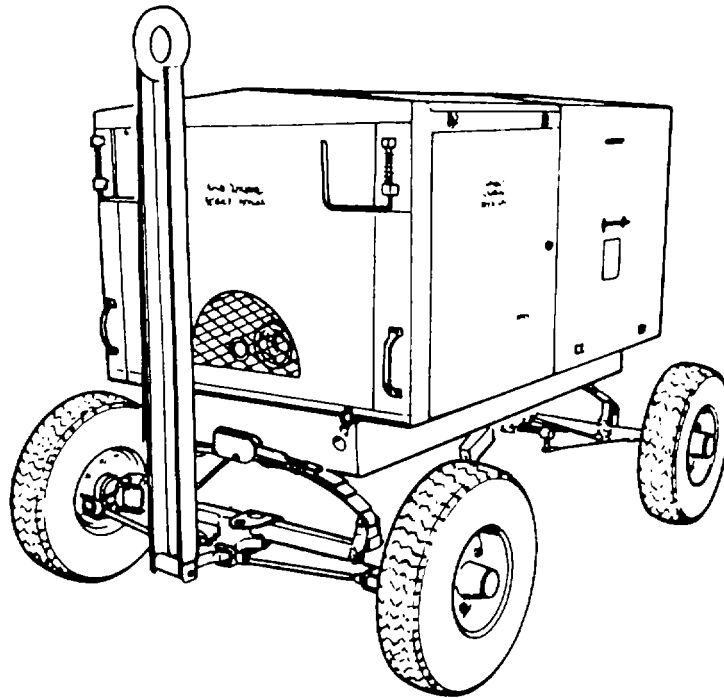

Figure 9-5. Type D5 Hydraulic Test Stand
c. *Hydraulic Test Stand.* The hydraulic test stand, shown in figure 9-5, is a mobile, self-contained hydraulic testing unit. It is enclosed in a steel, weather resistant housing, mounted on a trailer assembly that has a two bar to permit towing with a vehicle. Access to components in the housing is provided by doors.